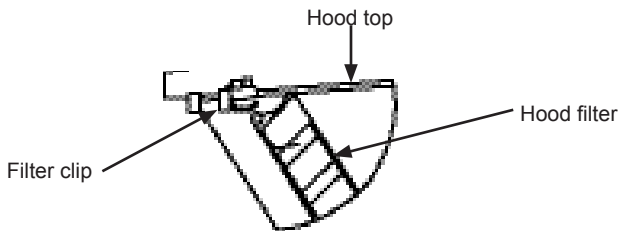

Figure 8
4. Open the filter clips on the underneath side of the hood top and insert filter. See Figure 8.